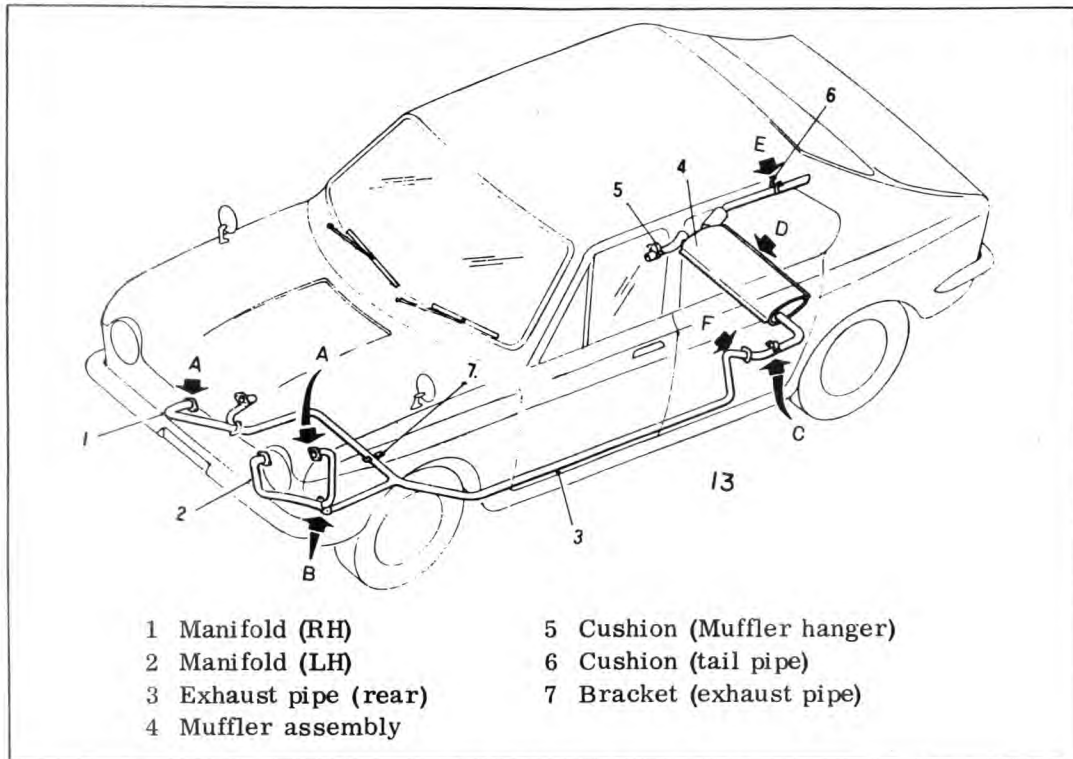

Fig. 10-1 Exhaust system
Full consideration is given to exhaust system arrangement. See Fig. 10-1. Glasswool in sufficient quantity is used to effectively silence noise.
Unthread the mounting nut on part A of Fig. 10-1 (manifold mounting) and remove the manifold.
Loosen part B in Fig. 10-1 (manifold and exhaust pipe joint).
- (a) Remove part B and F as shown in Fig. 10-1.
- (a) Remove part F, shown in Fig. 10-1.
- (b) Remove section C, shown in Fig. 10-1 (leave the cushion on the body).
- (c) Remove section E, shown in Fig. 10-1 (unthread the bolt joining the cushion and tailpipe and leave the cushion on the body).